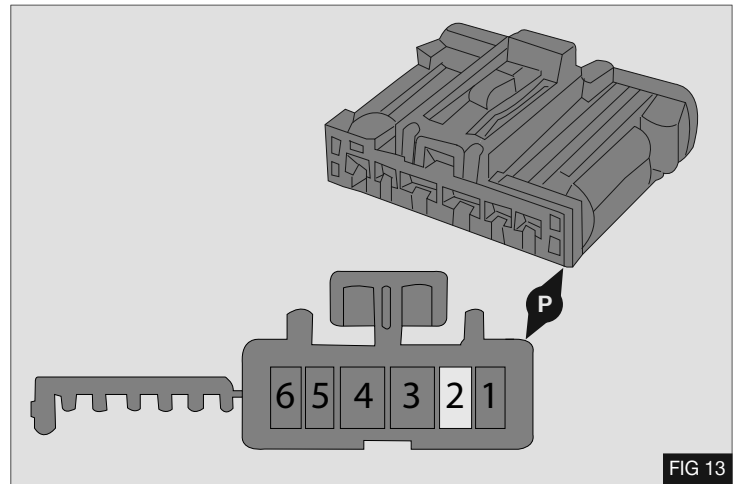

FIG 13
8. The manufacturers provide a +12V battery power supply for use with auxiliary component wiring via a 2-way connector (Q). This connector is located beneath the drivers seat - Fig 13